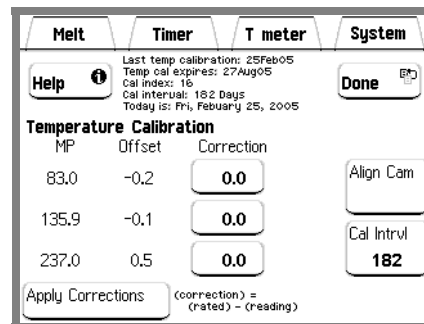

Figure 38. Calibration complete.
A pop-up window signals the successful completion of the offset calibration procedure. Once back in the calibration window (Figure 38): (1) Column 2 of the Temperature Offsets Table displays the new offsets (previous offsets plus the corrections just entered), (2) the boxes in Column 3 are again zero waiting for input from the *next* Acceptability Test, (3) the last calibration date is updated, (4) the calibration index is incremented, and (5) a new expiration date for the temperature calibration is displayed (based on the Calibration Interval).